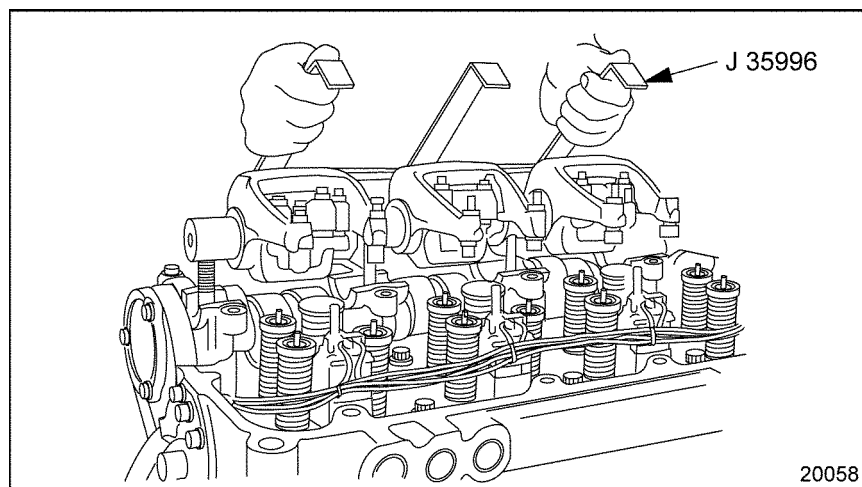

Figure 9-2 Rocker Arm/Shaft Assembly Removal/Installation
7. Remove all the rocker shaft mounting bolts and nut from the front or rear rocker shaft assembly. Using rocker arm lifter (J-35996-A), see Figure 9-2, lift the assembly straight up and off of the head and place in a clean area on the bench.
- Attach cylinder compression gauge (J-6692-B) to the first adaptor. See Figure 9-2.